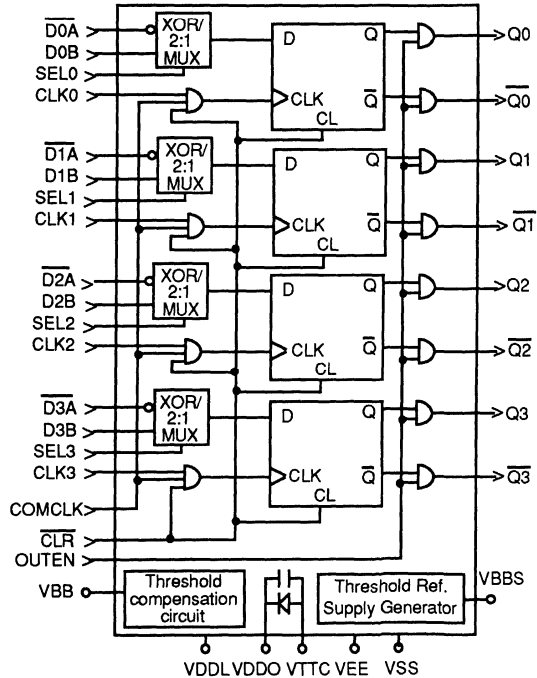

FIGURE 1. 10G024 Block Diagram
The 10G024 Quad Flip Flop, a recent addition to GigaBit's expanding GaAs SSI and MSI PicoLogic™ family of standard products, possesses unique XOR D inputs. At first glance, it might appear that providing XOR inputs on the D inputs of a Flip Flop would be of little utility; however these two examples will illustrate the value of this feature. The logic diagram of the 10G024 is given in Figure 1. A high level on the SEL input will result in the inverted (A) input being selected and a low will result in the non-inverted (B) input being selected. Both true and complement outputs are available to further enhance its flexibility. This input structure may be configured in various fashions to extend versatility. Tying the two inputs A* and B together creates one input of an XOR (hereafter referred to as IN), with the other input being provided by the SEL line as illustrated in Figure 2. A simple analysis of the the resulting truth table will show that feedback from the Q output to IN will yield a "T" (Toggle Flip Flop) with the SEL input being the Toggle control. Feeding the Q output back to the SEL input will yield a synchronous S-R (Set and Reset Flip Flop) with A* providing the RESET input and B providing the SET input. Both independent clocks and a clock common to all four sections are available.